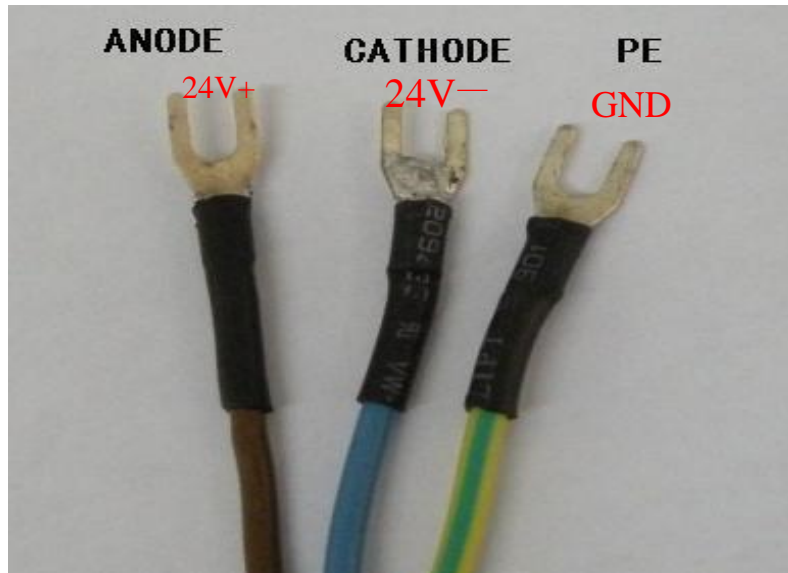

Figure 3. Definition of power line wires
- 2) Connect the power line to 24VDC power and ensure enough DC output power. Keep it clear to the polarity of the electric current: anode-brown; cathode-blue; PE-yellow and green. The definition figure is shown in Fig. 3.